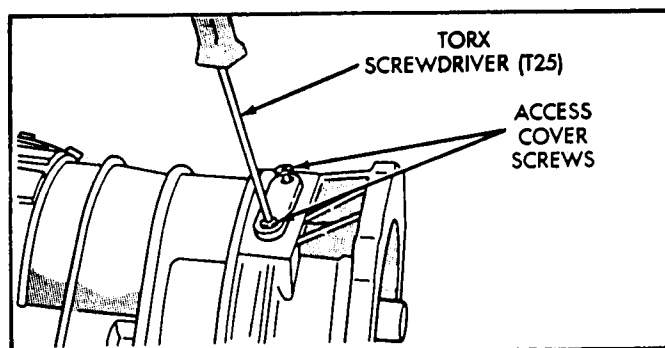

Figure 28
41. Install new locating ring access cover gasket, and install access cover, as shown in Figure 28.